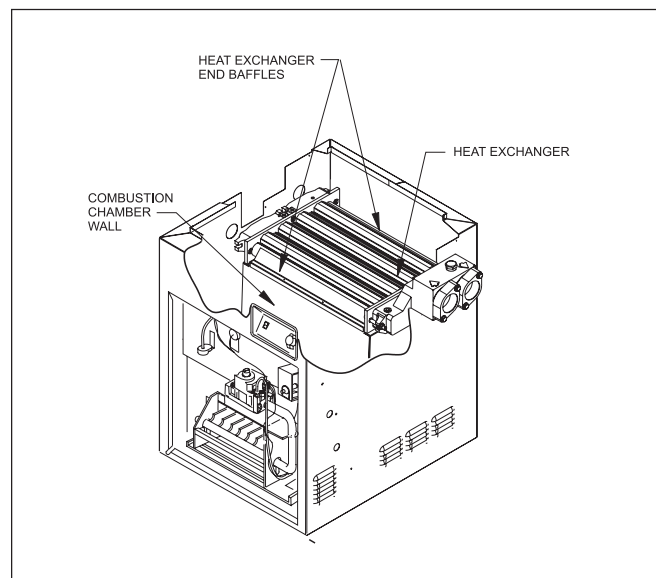

Figure 12. Heat exchanger and end baffles.
11. When removing the heat exchanger from the heater, the end baffles of the heat exchanger (installed only on sizes 125 BTU, 175 BTU and 250 BTU) must be removed. There are two baffles covering part of the front and rear tubes of the heat exchanger. Each baffle is held in place by two screws which mount to the top of the combustion chamber wall. Remove the screws and the baffles before attempting to lift the heat exchanger out of the heater (see Figure 12).